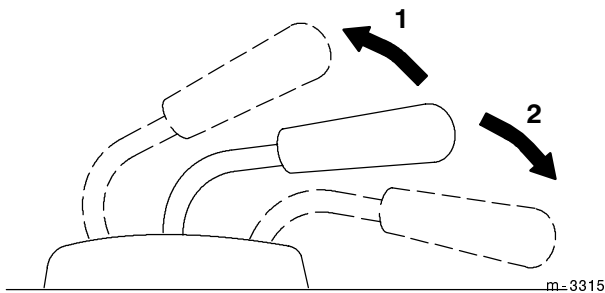

Figure 21
- Pull the lift lever up to raise the attachment (Fig. 21).
2. Push the lift lever down to lower the attachment (Fig. 21).